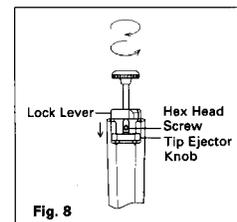

Fig. 8
2. Depress the tip ejector knob fully. (Fig. 8)
3. Loosen the lock lever by turning it counter clockwise and stop when the oval opening under the lever faces over the tip ejector knob. (Fig. 8)
4. Rotate the thumb knob until one of two hex head screws comes to the top of oval opening. (Fig. 8)
5. Loosen both hex head screws with a hex head wrench (1.5mm) by turning them counter-clockwise one by one. (Fig. 8)